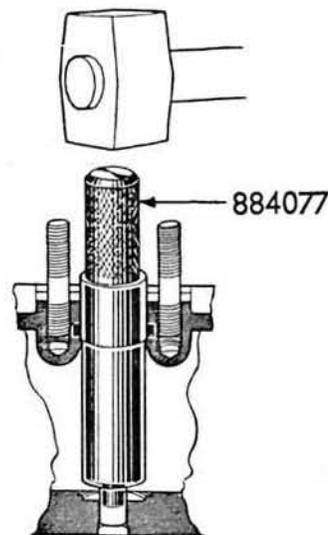

Fig 8. Pressing in the injector sleeve
2. Fit the injector sleeve on tool no. 884077 and oil in the sleeve externally. Push down the tool with the sleeve in the cylinder head hole while the tool and sleeve are turned clockwise or anti-clockwise. As soon as the thin part of the sleeve is correctly located, drive it into position with a hammer and a drift, Fig 8.